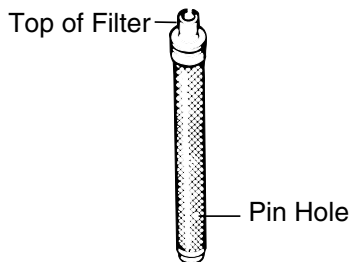
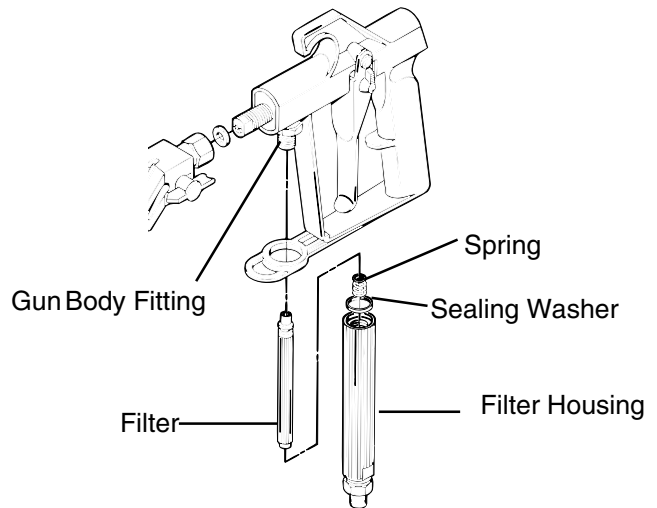

Figure 30 - Gun Filter Cleaning.
Figure 31 - Gun Filter Cleaning.
If the filter is not cleaned at the proper time, it will plug from the top down. When there is about 1 inch of filter that isn't plugged, the heavy flow of paint will blow pin holes in the filter. See Figure 30. This in turn will allow unwanted particles to get into the spray tip, causing spray tip to clog.
6. Insert the top of the filter (Figure 30) into the gun body fitting under the tip of the spray gun. See Figure 31.